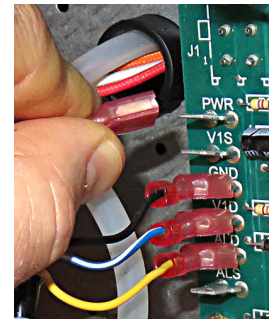

Figure 18
24. Route new harnesses into control box and connect to the interface board (see Figure 18). Use the wiring diagrams on the last page to attach to the correct connector.